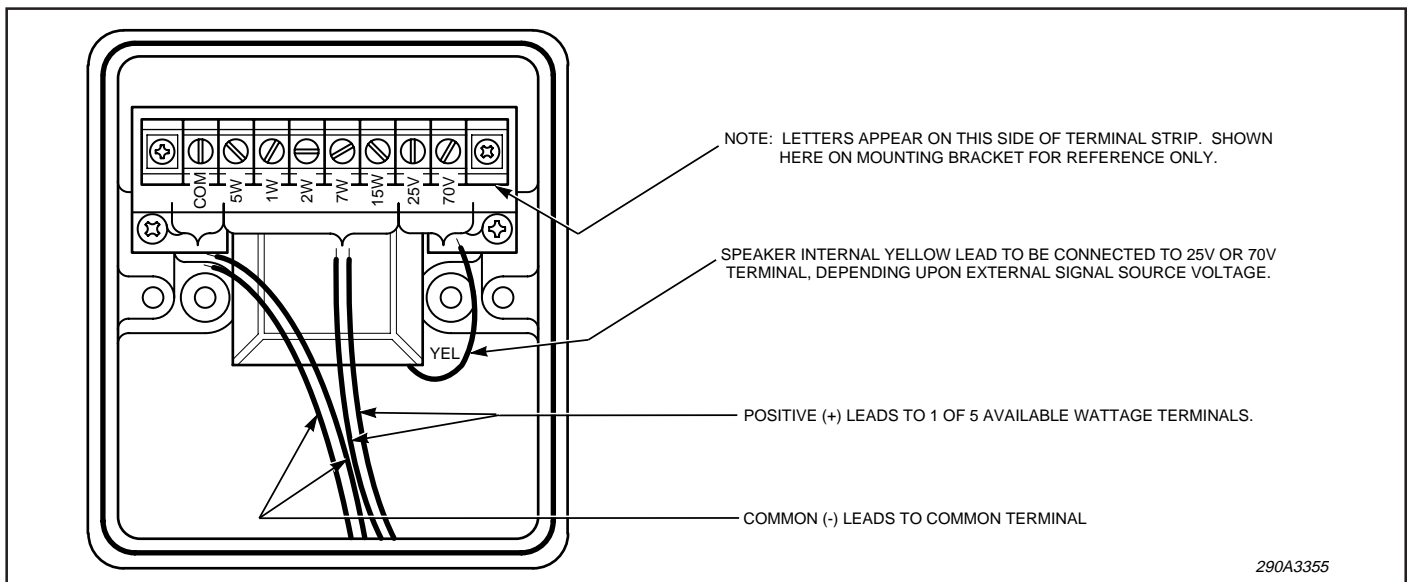

Figure 3. Internal Multi-tap Wiring Set-up.
b. See Figure 3. Connect the yellow lead, found in the speaker, to the 25V or 70V terminal as appropriate.
c. See figure 3. Connect the yellow lead, found in the speaker, to the 25V or 70V terminal as appropriate.